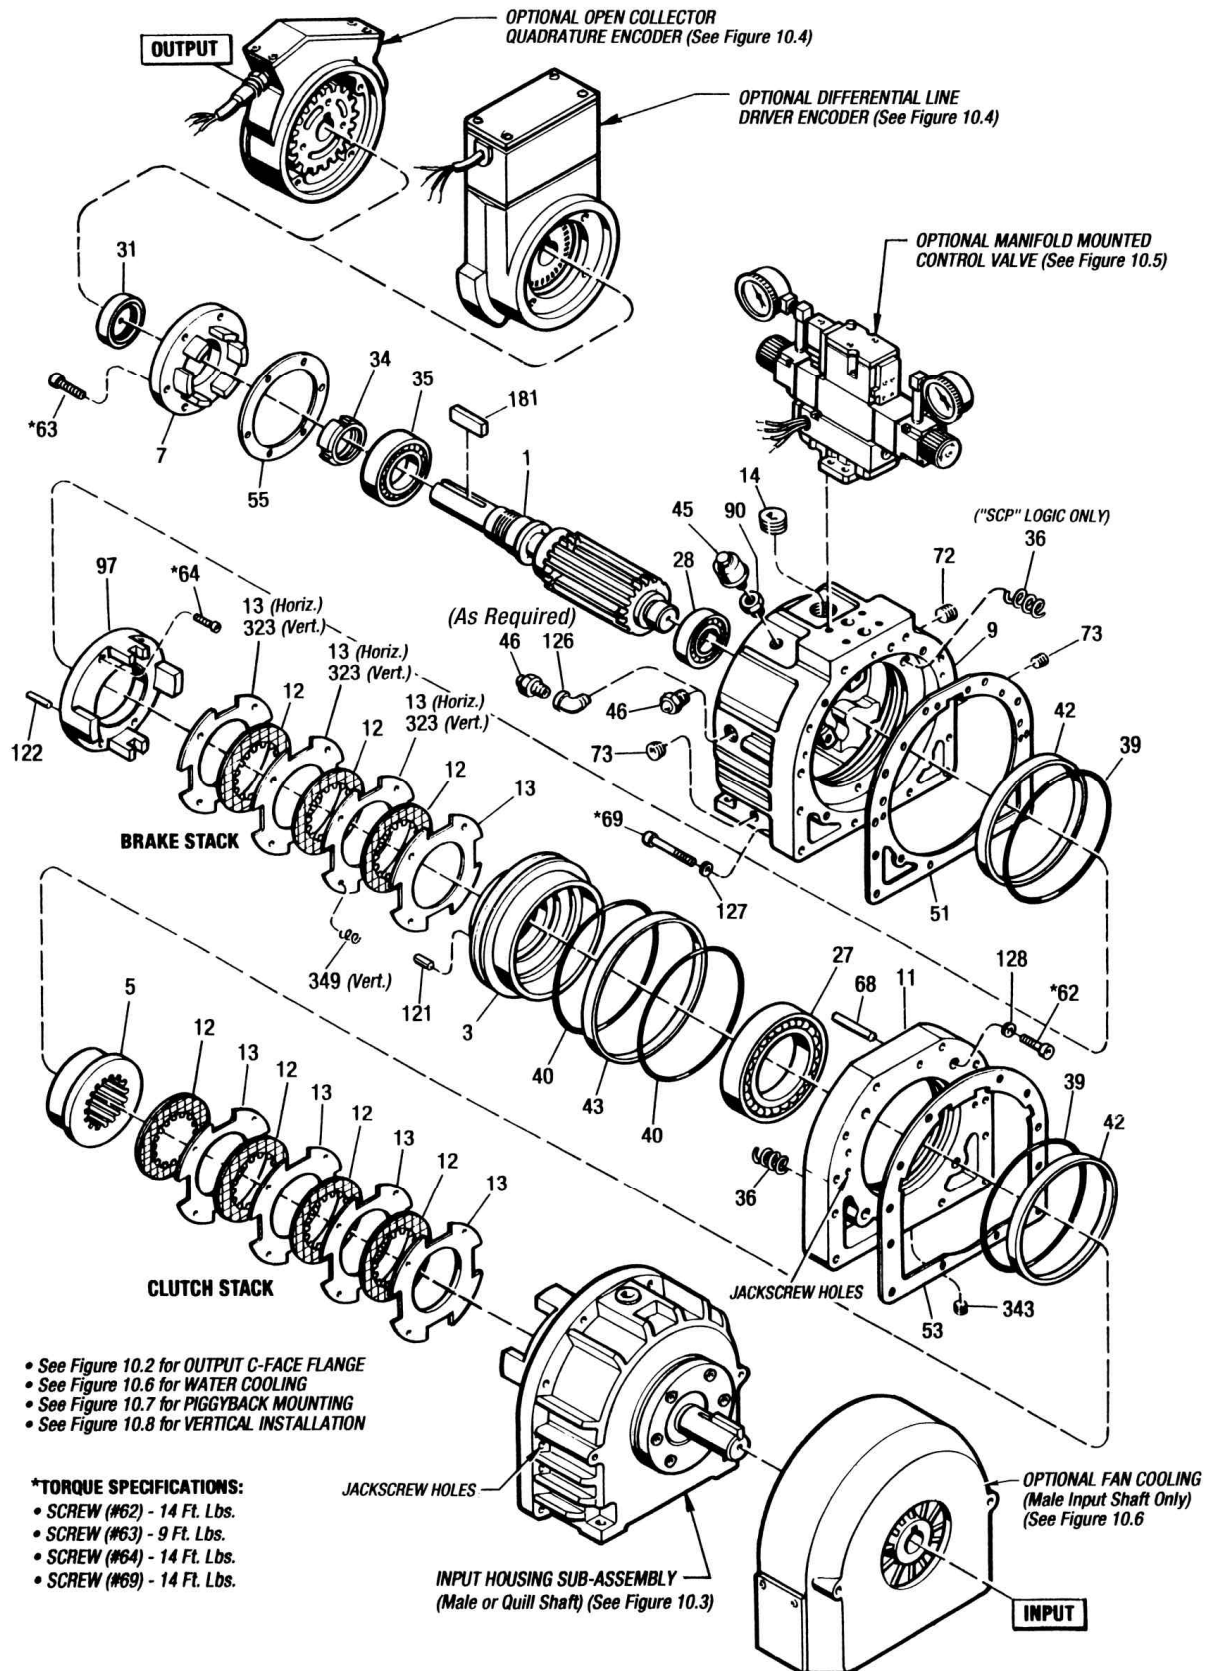

Figure 10.1 - 2.5 Posidyne Clutch/Brake Assembly
*(Repair Parts List for Figure 10.1)*